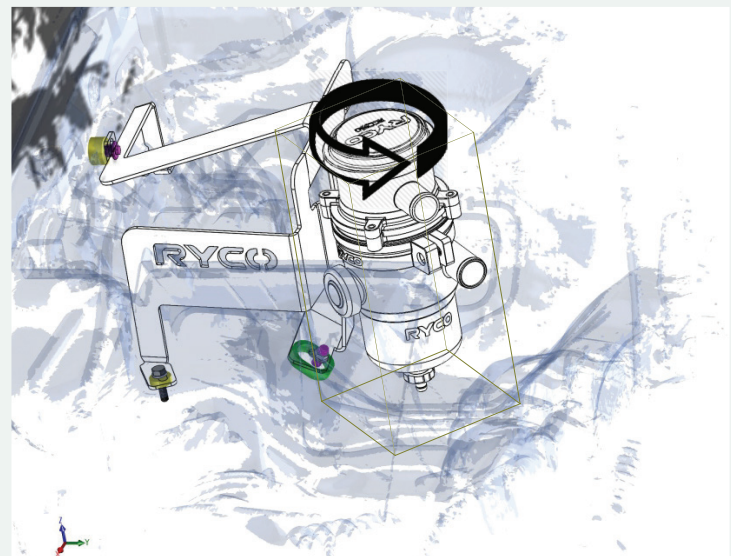

FIGURE 4B
- 11 Proceed to rotate the RCC351 to match the alignment shown in FIG. 4B, ensuring clearance to the Engine Airbox.